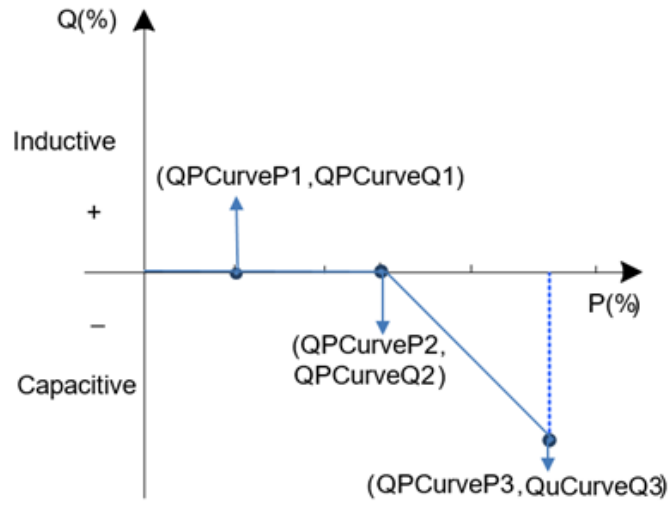

Figure 6-8 Q(P) Curve Mode
Q(P) Curve: Q(P) curve mode. The reactive compensation changes according to the active power change (see Figure 6-8).